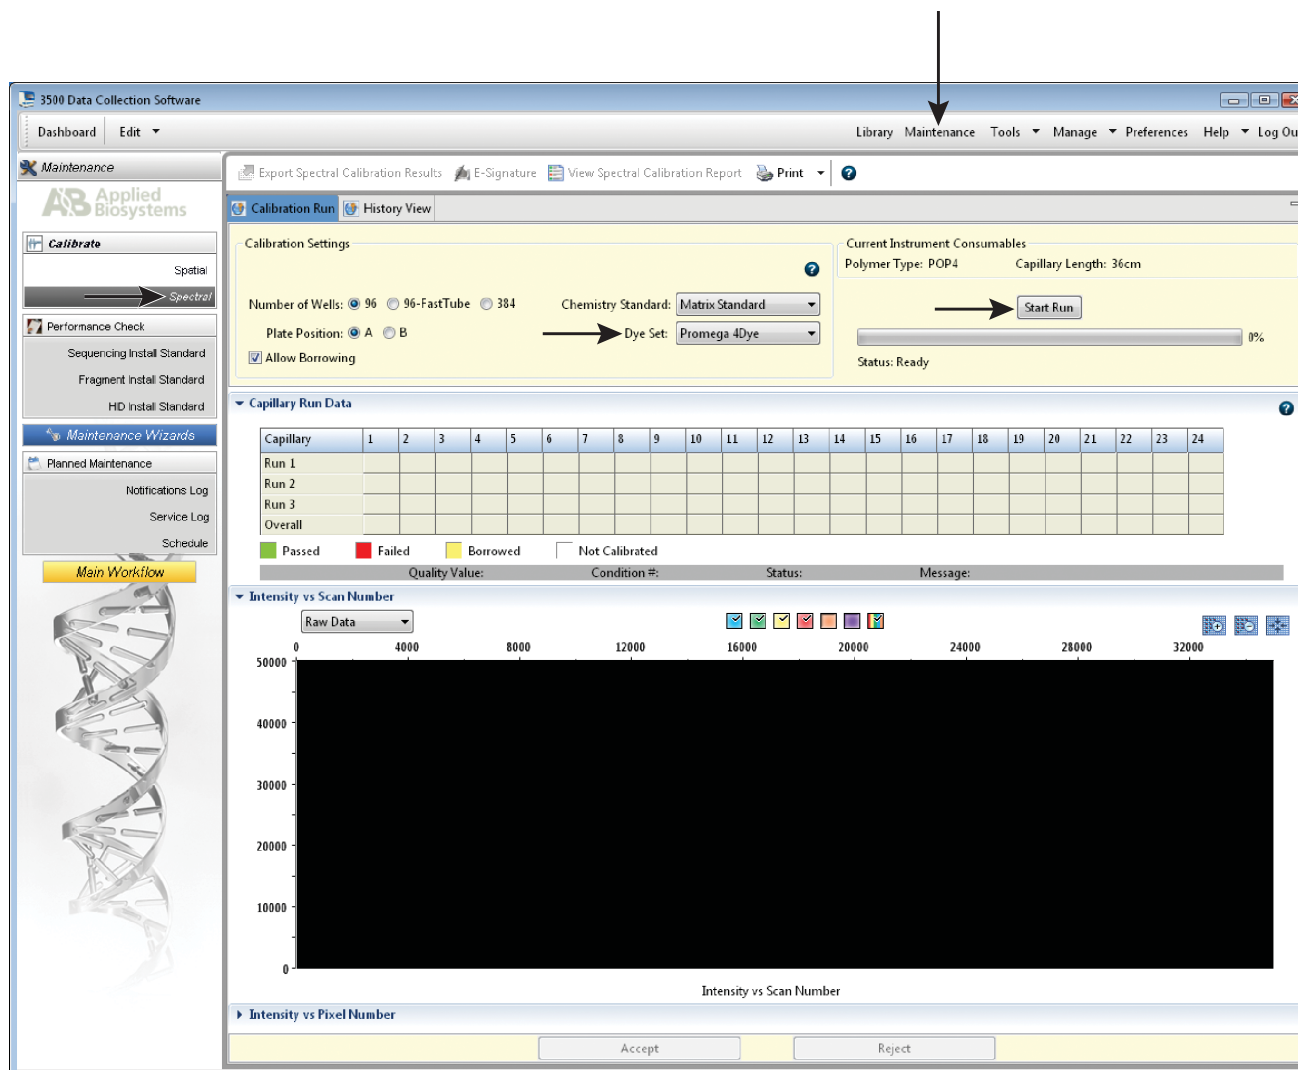

Figure 3. Calibration Run.
- c. To perform the spectral calibration, go to the Maintenance tab, select “Spectral”, and under the Calibration Run tab, choose the appropriate fields: Choose “Matrix Standard” from the Chemistry Standard drop-down menu and the new Promega 4C dye set (e.g., Promega F) created in Step 2.b from the Dye Set drop-down menu (Figure 3).